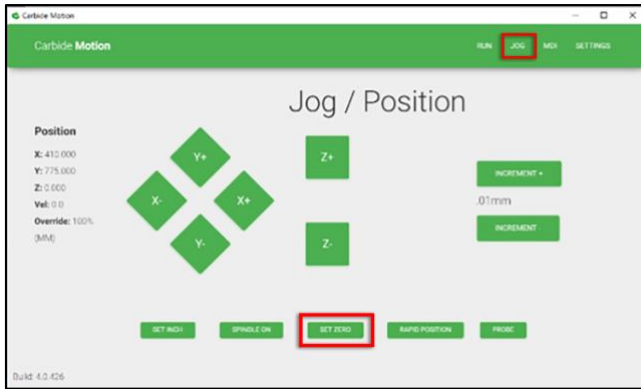

Figure 16
2. Click the **Set Zero** button. See *Figure 16*.